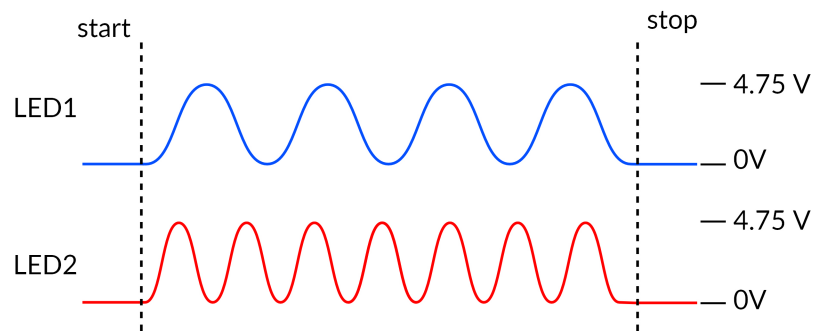

Figure 3.11: *Lock-in Acquisition Timing Diagram*
- When using the **Lock-In** mode, the input will only record signals at a given reference frequency, filtered by a low-pass filter. This allows the detection of multiple different signals if each is at its own reference frequency (Fig. 3.11). A more detailed procedure to use this modality is included in section 3.1.3.